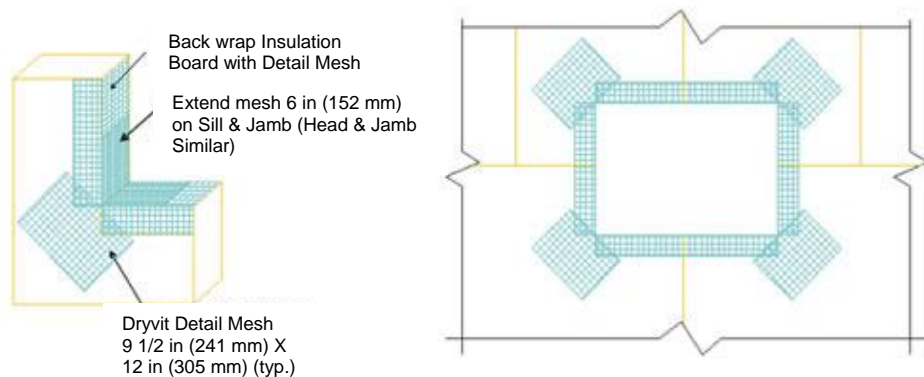

Figure 12
- 18. Corners of all openings such as windows, doors, mechanical equipment and all penetrations shall be reinforced with Detail Mesh placed diagonally to the opening as illustrated in Figure 12.